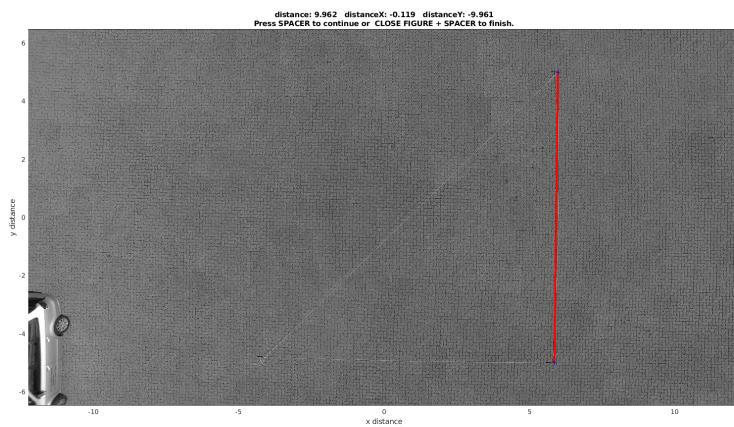

Figure 3.12: Check calibration real size.
7. Check pattern real size. The figure 3.12 will be displayed, use this GUI again, to double check the real distances obtained by the new camera calibration. Try as many times as you want. Close the figure and press the SPACER to exit the GUI.